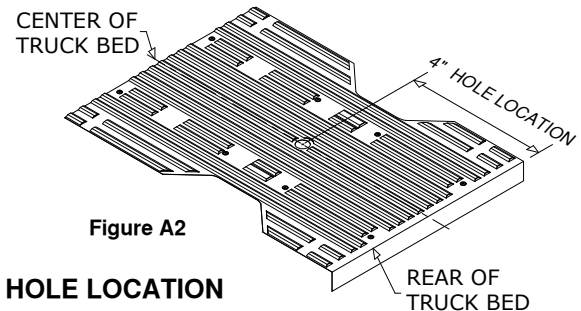

Figure A2
7. **Mark the 4" hole location.** Using a tape measure hooked over the rear edge of the bed (at tailgate end), measure the location for the hole as shown in Figure A2. Next, locate the center of the bed by measuring the distance between the wheel wells and dividing by two. The center of the hole will be at the intersection of the center of the bed and the first distance measured.